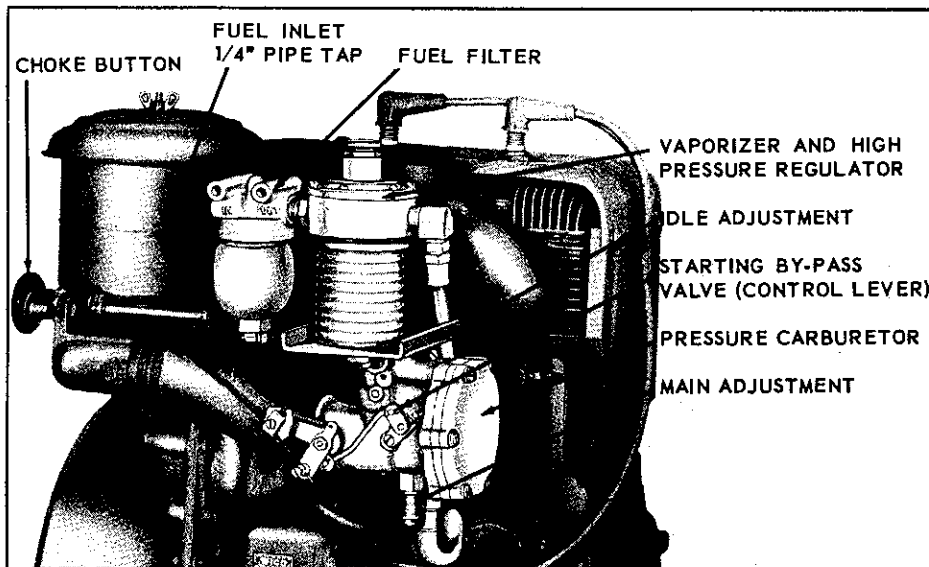

Fig. 1. LIQUID WITHDRAWAL - See Fig. 3 for Vapor Withdrawal
LIQUID WITHDRAWAL, Fig. 1
2. Before starting a new engine, refer to Fig. 1 and adjust carburetor as follows: Turn idle adjustment screw in until it seats. Caution: Do not use excessive force. Adjust 1½ turns out from its seat. Next, turn main adjustment screw in until it seats, then turn back 1½ turns.
LIQUID WITHDRAWAL, Fig. 1 and 2